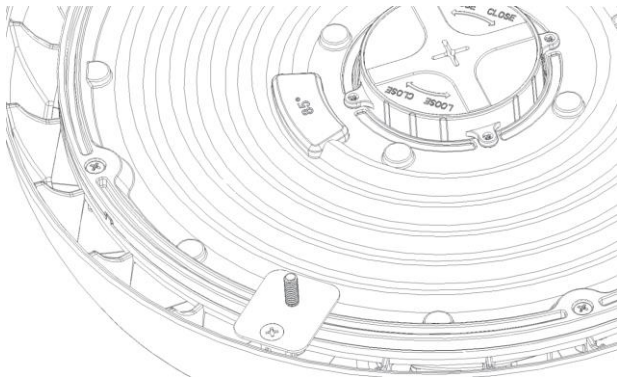

FIG.5
- 2) Locate the provided bracket and attach it to the (4) mounting holes using the flat head screws. (FIG.5)